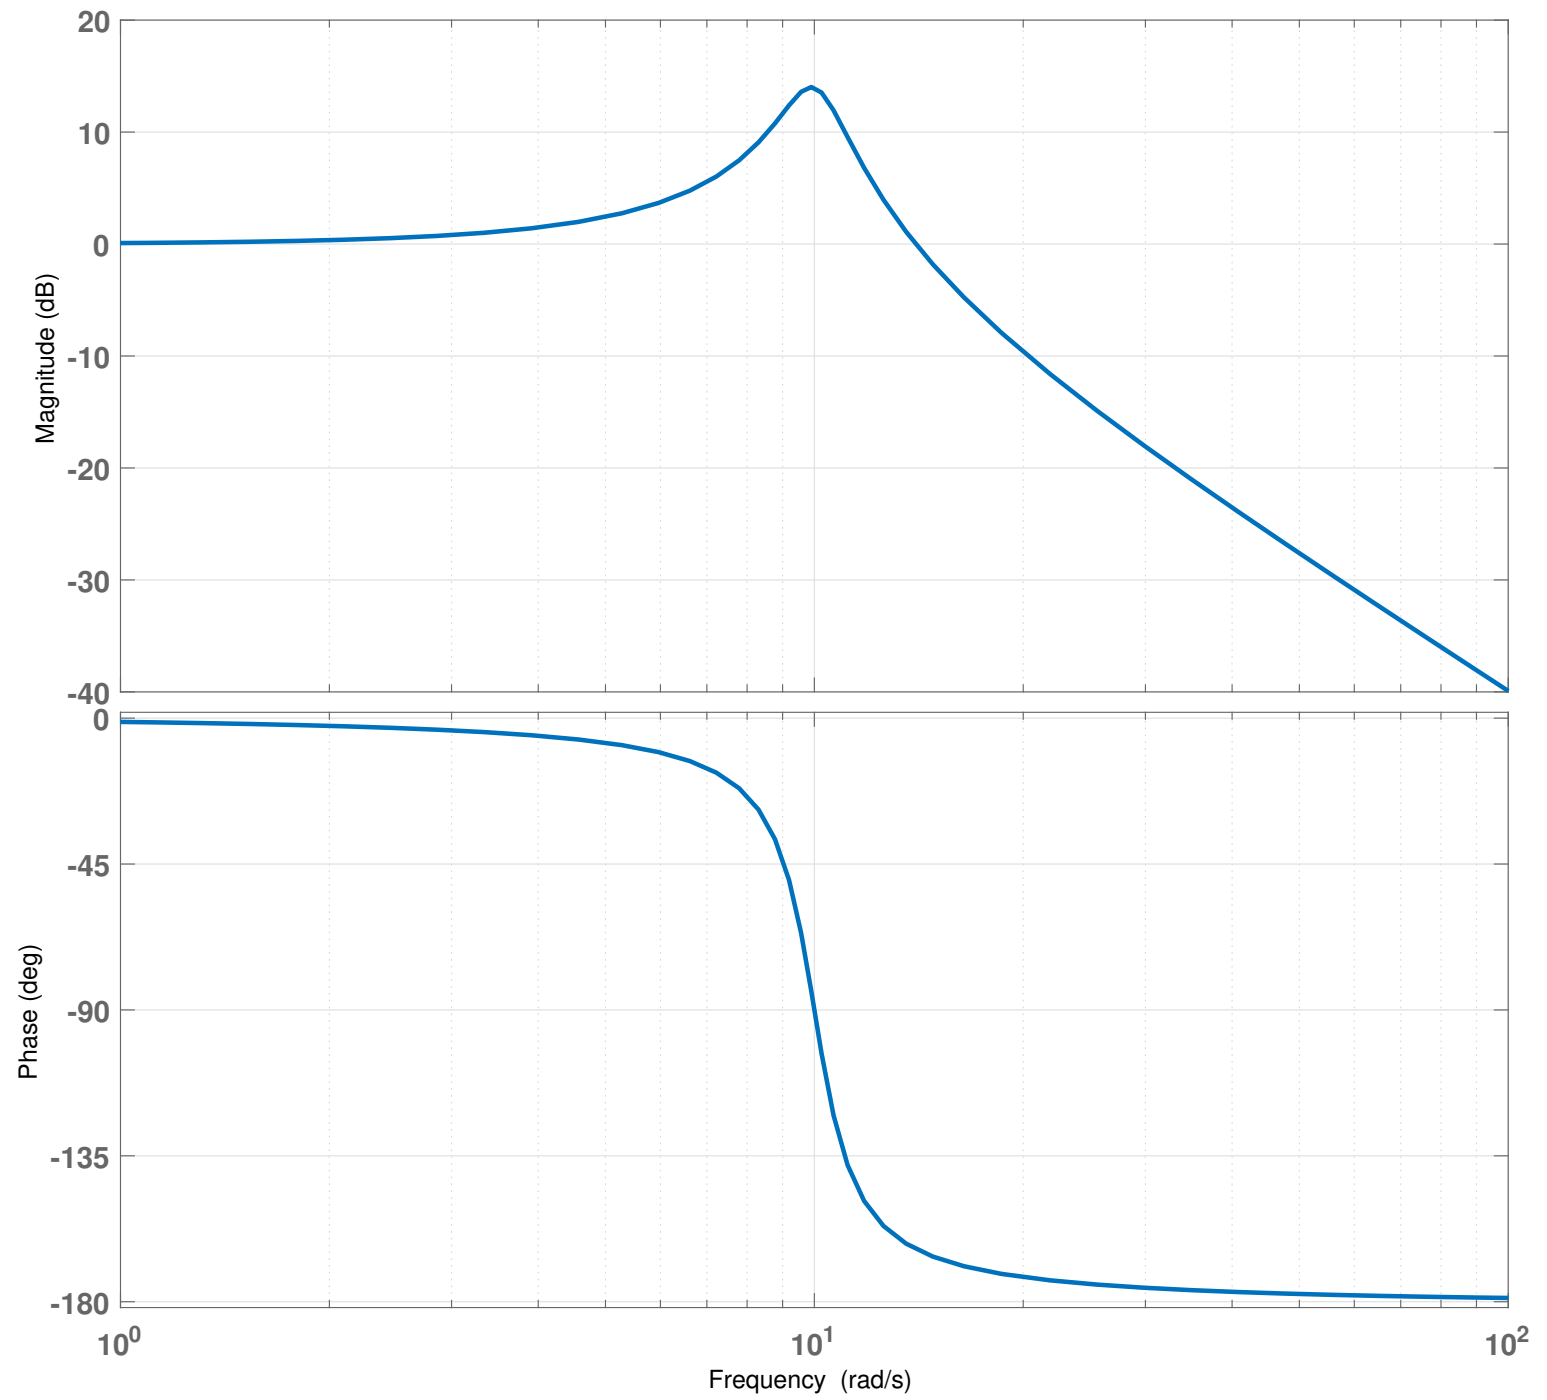

Figure 4: Frequency response of an unknown plant
5. The frequency response of a closed loop system is shown in figure 4. Calculate  $\zeta$ ,  $\omega_n$ , bandwidth,  $\omega_r$  (resonant frequency), and the resonant peak  $M_r$ .